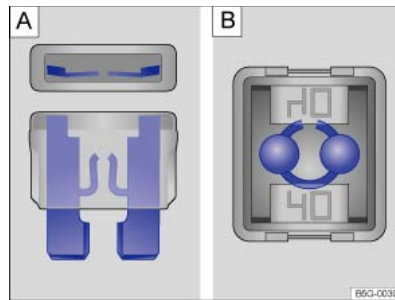

Fig. 213 Blown fuse: flat blade fuse, JCASE® fuse.
- If a *flat blade fuse* (ATO®, MINI®) has blown, this can be recognised from the top and side through the transparent housing by the fact that the metal strip has melted ⇒ Fig. 213 A.
- If a JCASE® fuse is blown, the melted metal strip can be seen from the top through the transparent housing ⇒ Fig. 213 B.